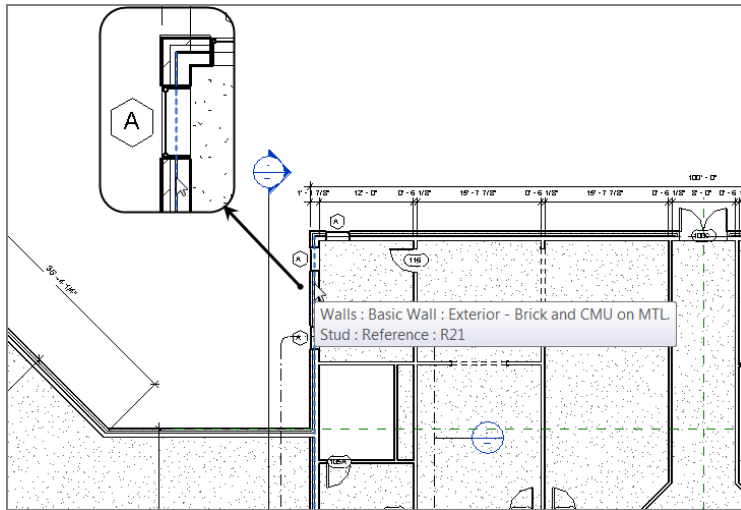

FIGURE 8.14 : Adding the first vertical grid by picking the centerline of the exterior wall
4. Pick the centerline of the west exterior wall of the east wing (see Figure 8.14).